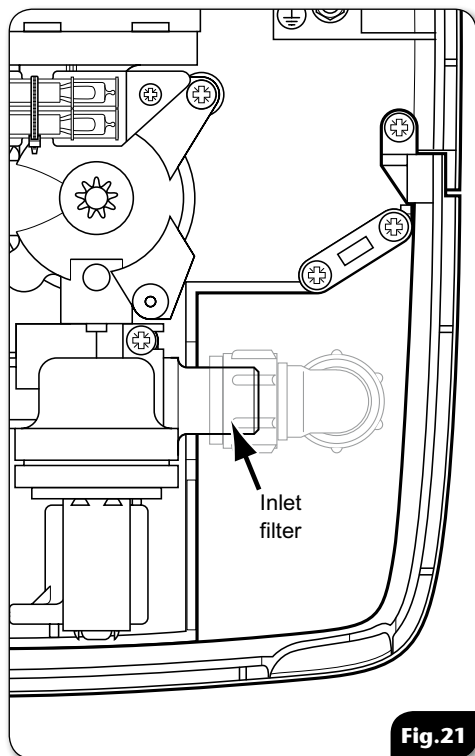

Fig.21
- The inlet filter is situated in the inlet pipe which is part of the solenoid valve (**fig.21**).